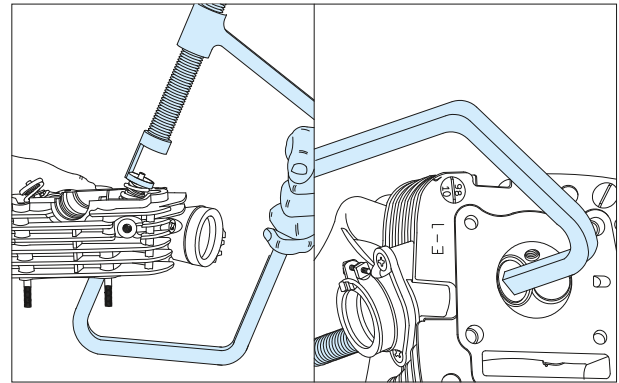

Fig. 3.62
- Locate the special tool to remove the valves as the movable jaw of the tool rests on retainer valve spring (Fig. 3.62 ) and the other end (fixed jaw) to rest at the center of the valve face. (Fig. 3.62)